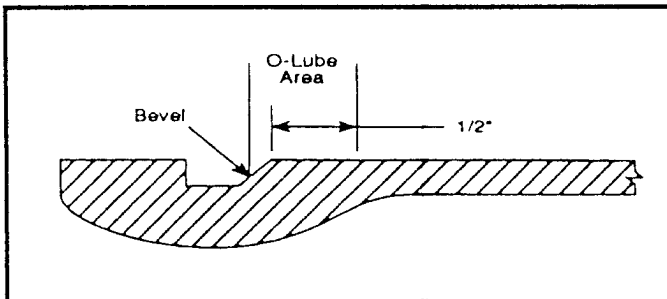

Figure 3
1. Work O-ring lubricant into shell from half way up the bevel to approximately 1/2" in from the bevel. (See Figure 3)